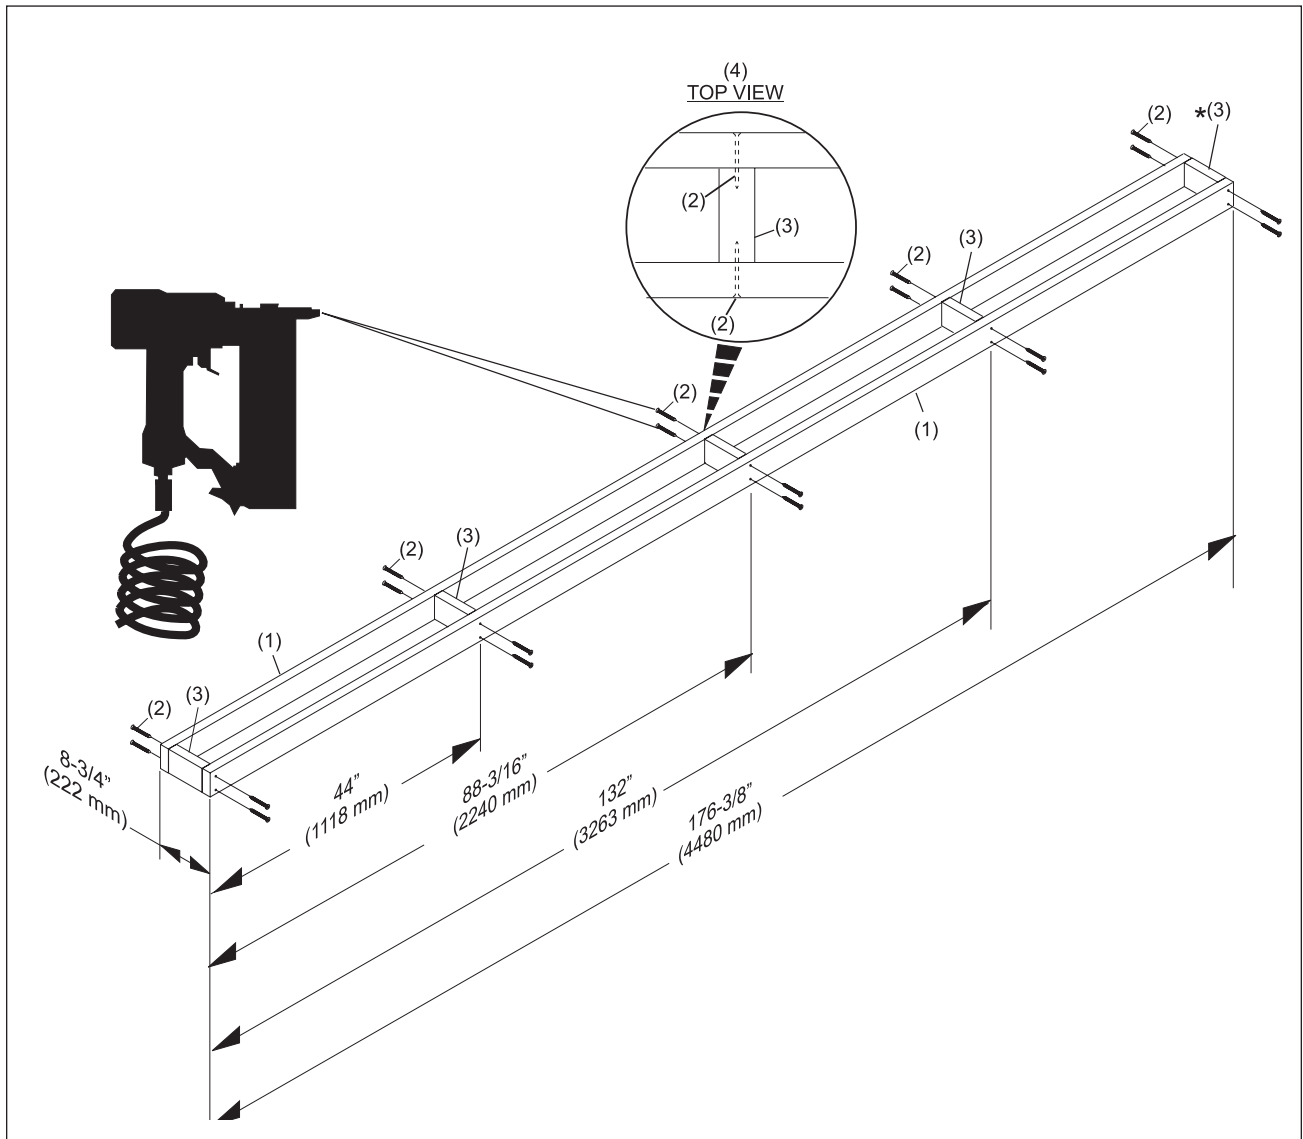

Figure 4. PINSETTER END Support Frame
1. Position the 1-1/2" x 3-3/4" x 5-3/4" (146 mm) spacers between the side rails and secure with four 2-1/2" ring shank nails for each spacer. Refer to *Figure 4*.